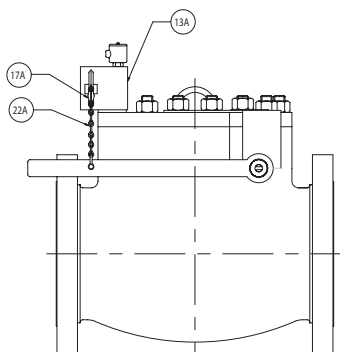

Fig. 3 – FE Series with solenoid actuator and thermal fuse
When the valve is equipped with pneumatic actuator (Figure 3), the thermal fuse (17A) should be connected to the actuator (13) slot.